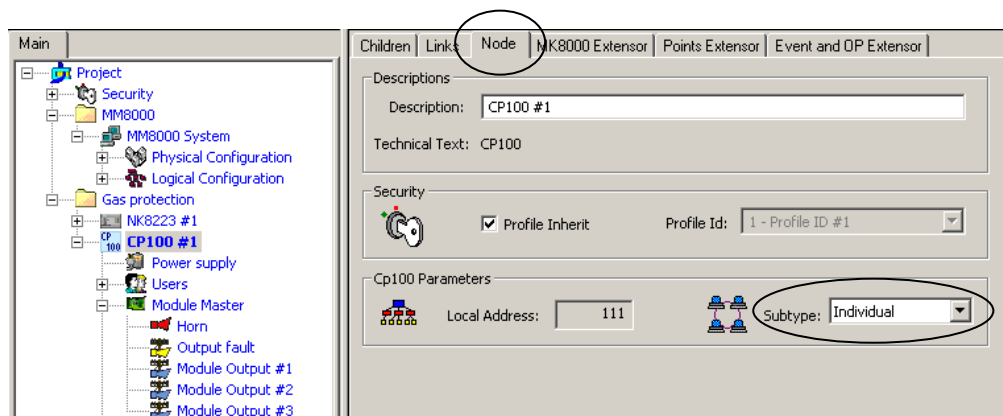

Fig. 13 Setting CP100 mode (subtype)
2. Click the Node tab (see Fig. 13).
You now have to define the CP100 internal structure to reflect the actual control unit configuration. By default, the CP100 structure includes the following objects (see also Fig. 13):